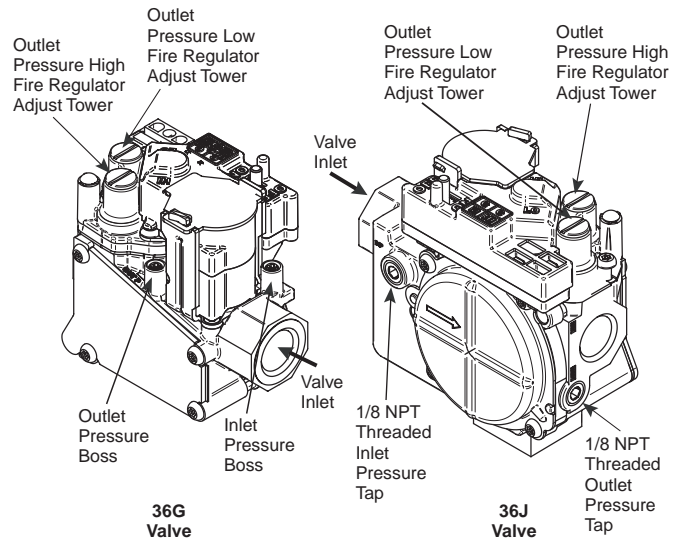
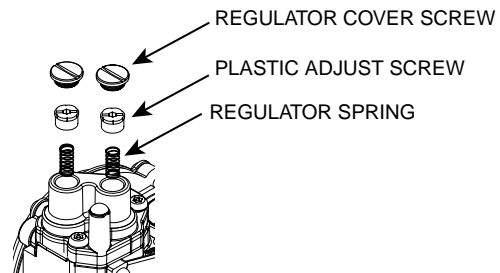

Figure 5
Figure 6
2. Some models feature pressure tap bosses that eliminate the need for a separate fitting when checking pressure (See Figure 5). If valve is equipped with pressure tap bosses, back outlet pressure test screw out one turn (counterclockwise, not more than one turn). For models with 1/8 NPT threaded taps, the outlet pressure tap plug will need to be removed and a separate hose fitting installed.
3. Attach a hose and manometer to the outlet pressure boss of the valve (see fig. 5).
5. Remove regulator cover screw from the low outlet pressure regulator adjust tower (fig. 5) and turn screw clockwise (↻) to increase pressure, or counterclockwise (↺) to decrease pressure (see fig. 6) Always adjust regulator according to original equipment manufacturer's specifications listed on the appliance rating plate. Replace regulator cover screw.
7. Remove regulator cover screw from the high outlet pressure regulator adjust tower (fig. 5) and turn screw clockwise (↻) to increase pressure, or counterclockwise (↺) to decrease pressure (see fig. 6) Always adjust regulator according to original equipment manufacturer's specifications listed on the appliance rating plate. Replace regulator cover screw.